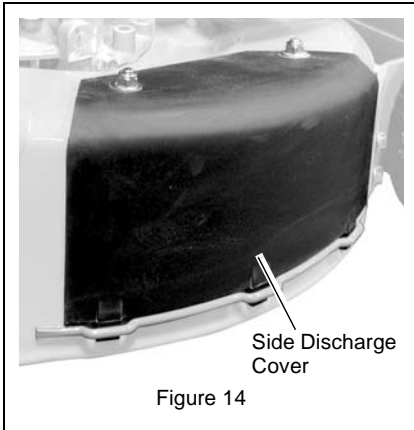

Figure 14
2. Install side discharge cover (Figure 14).
2. Remove grass bag and install side discharge cover. See Figure 14.